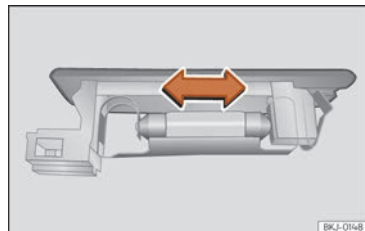

Fig. 178 Boot light.
- Press the bulb sideways and remove it from its housing »» Fig. 178.